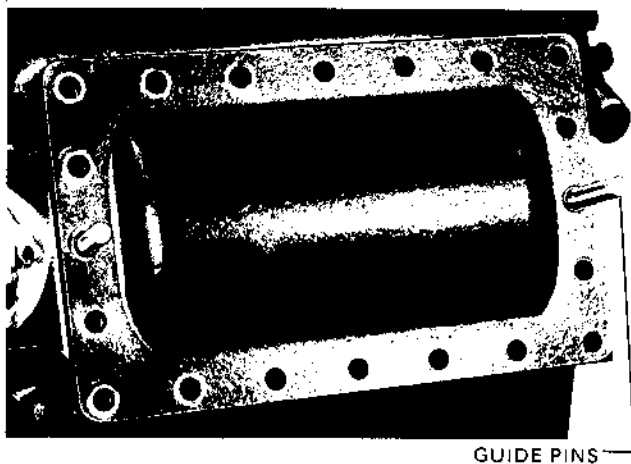

FIG. 14 — TOP HEAD REMOVAL
1. Remove the compressor top head(s). The use of guide pins is recommended to prevent damage to the compressor and/or injury to the serviceman. (See Figs. 14 & 15.)